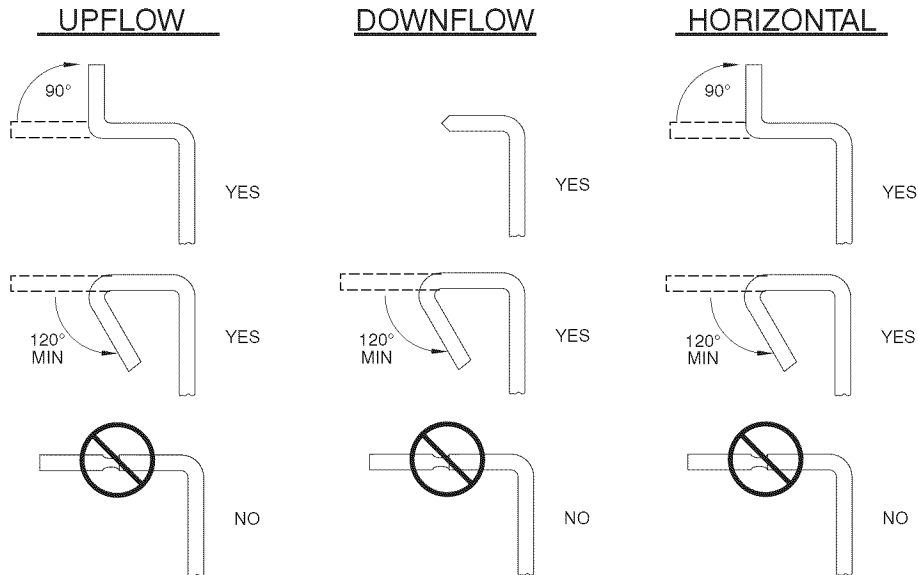

Fig. 14 - Duct Flanges
**NOTE:** It is recommended that the perforated supply-air duct flanges be completely folded over or removed from furnace when installing the furnace on a factory-supplied cased coil or coil box. To remove the supply-air duct flange, use wide duct pliers or hand seamers to bend flange back and forth until it breaks off. Be careful of sharp edges. (See Fig. 14.)
Connect supply-air duct to flanges on furnace supply-air outlet. Bend flange upward to 90° with wide duct pliers. (See Fig. 14.) The supply-air duct must be connected to ONLY the furnace supply-outlet-air duct flanges or air conditioning coil casing (when used). DO NOT cut main furnace casing side to attach supply air duct, humidifier, or other accessories. All accessories MUST be connected to duct external to furnace main casing.